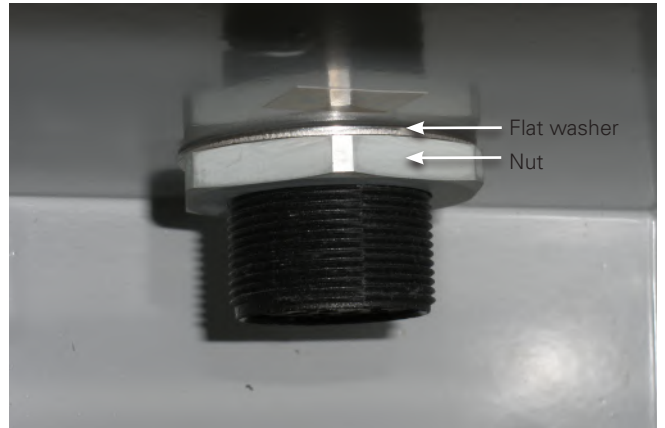

Figure 18. Securing control cable to box.
3. Inside the control box, place the flat washer and nut onto the threads as shown in Figure 18. Tighten the nut snugly using a 1-3/4" open-end wrench.